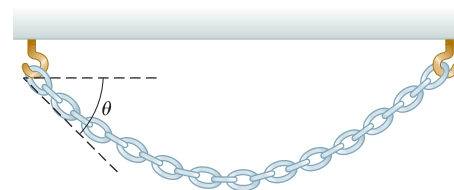

Figure P12.15
- 15.** A flexible chain weighing 40.0 N hangs between two hooks located at the same height (Fig. P12.15). At each hook, the tangent to the chain makes an angle $\theta = 42.0^\circ$ with the horizontal. Find (a) the magnitude of the force each hook exerts on the chain and (b) the